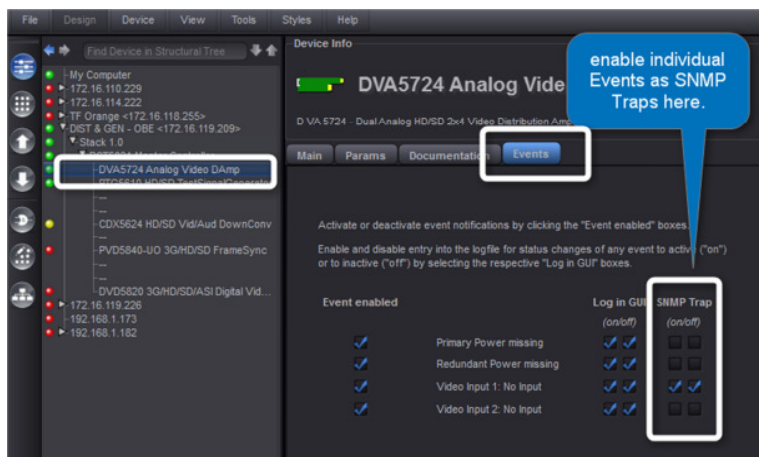

figure 1: SNMP Traps are enabled per individual CardModule
Whenever an Event of an individual CardModule changes its state (from passive to active and vice-versa), an appropriate entry is added to the LYNX Server's Logfile. Additional notification options can be controlled from the individual CardModules "Events" Tab in the APPolo GUI (see figure 1):
- (1) Enable the Option OC_RSL_CTRL in the Server that hosts the CardModule in question.
- (2) Use the LYNX APPolo GUI to navigate to the CardModule, go to the Events-tab and enable the SNMP-Traps for any event (for example: “Video Input 1: No Input”) at the DVA5724 as shown in figure 1.